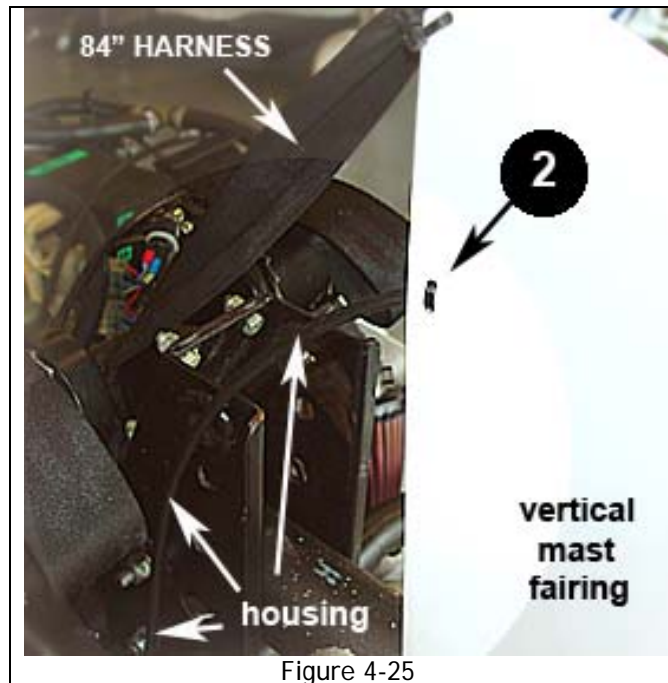

Figure 4-25
4.20 Connect the Rear Handle Housing to the vertical mast fairing, using Cable-ties through the existing holes in the fairing, shown as point ❷ in Figures 4-25 and 4-26. The Handle Housing should have plenty of clearance, as shown in Figure 4-25.